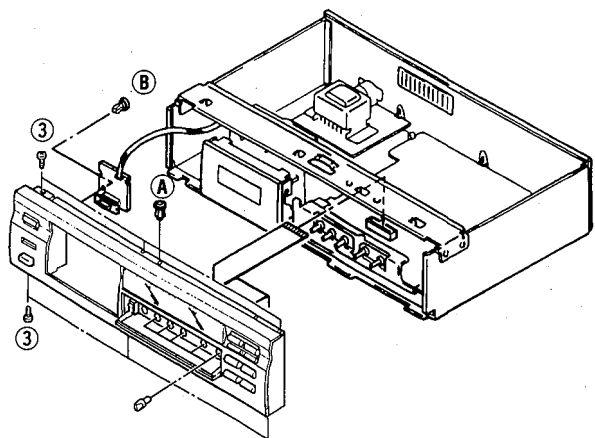

Fig. 2
- c. Remove 1 plastic rivet (B) in Fig. 2 and then remove the P.C.B. Main (4).